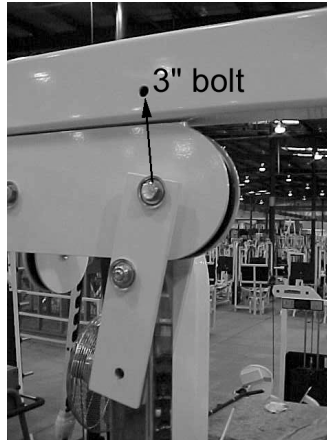

Figure 10. Mount adjustable pulley bracket.
- A. Using a 9/16" socket and combination wrench, remove the tricep back rest bolts (see Figure 10).
- B. Using a 9/16" socket and combination wrench, unbolt the top plate and remove the guide rods (see Figure 10). The SM30 includes two guide rods that are used to contain the shipping box. These guide rods are the ones opposite the lat pulldown bench and will not have a weight stack on them.
- 6. Mount adjustable pulley bracket.** When shipped, the adjustable pulley bracket looks like the one shown in Figure 10. The bolts need to be removed and the bracket needs to be positioned so that the top of the bracket is in the top hole as shown by the arrow in Figure 10. Use a 3" bolt with flat washers, end cap washers and end caps. When you remove the bolts, leave the pulley bolt and pulley out since you will need to thread the cable with the pulley removed.